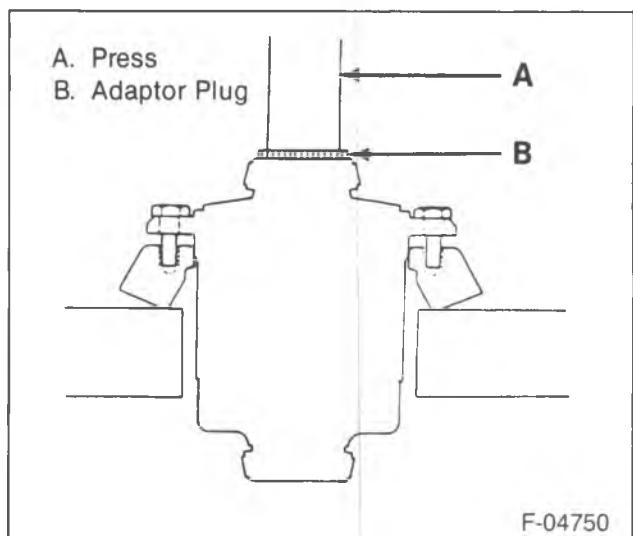

Figure 16—Ring Gear to Case Installation
- Differential side gears (29) and thrust washers (30) to the differential case halves in their original locations.
- Differential spider (33) to the differential.
- Ring gear (14) to the differential (figure 16).
- New ring gear bolts (36).